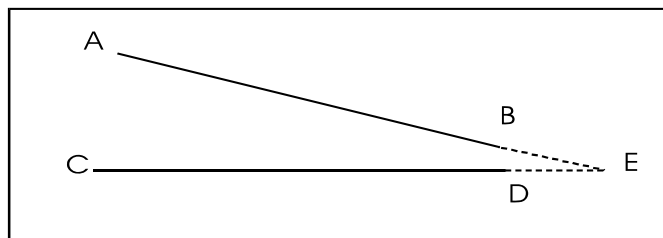

Figure 2.4.1. Linear extension example 1
- a) In *Figure 2.4.1*, lines AB and CD will be extended to point E, if E is within tolerance of both AB and CD, and both B and D are free ends.